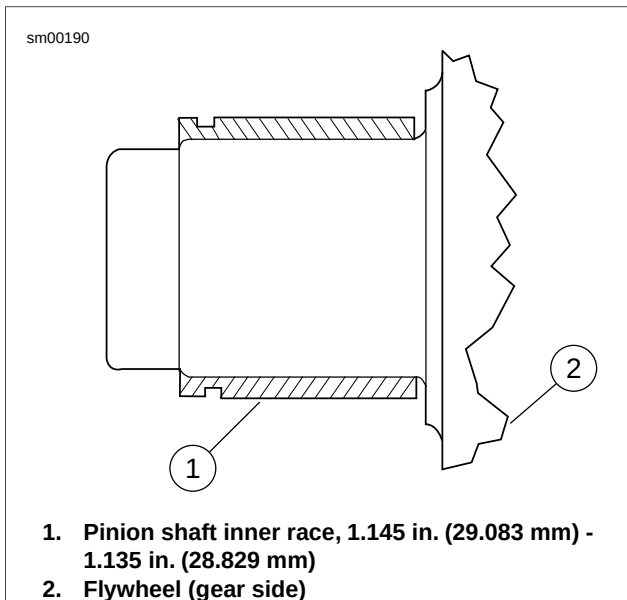

Figure 3-133. Inner Race Location
- 9. See Figure 3-133. Press new inner race on pinion shaft as shown. When the tool bottoms against the flywheel, correct inner race location is automatically established. The finished inner race must meet the specifications in Table 3-32.